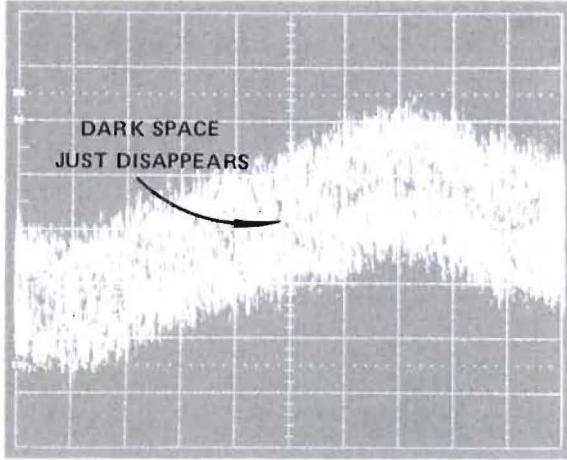

Figure 42 Offset Adjusted until Dark Area just Disappears
- With both channels identically calibrated, adjust the voltage offset until the dark area between the two traces just disappears (Figure 42).